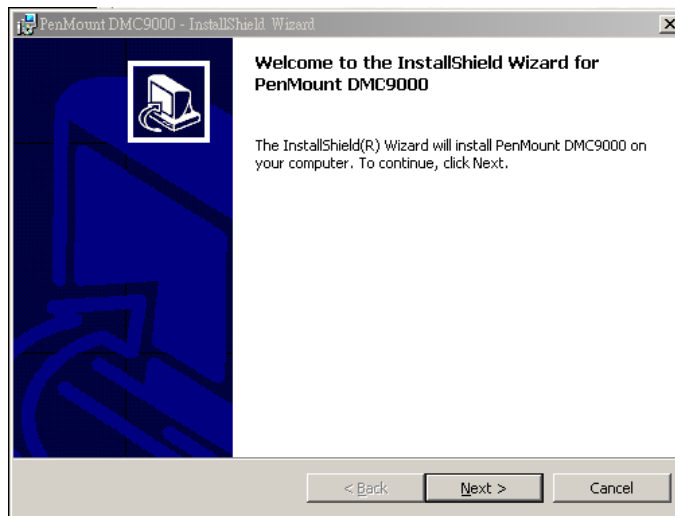

Figure 7-19: Welcome Screen
- Step 2:** A welcome screen appears (**Figure 7-19**). To continue the installation process click **NEXT**.